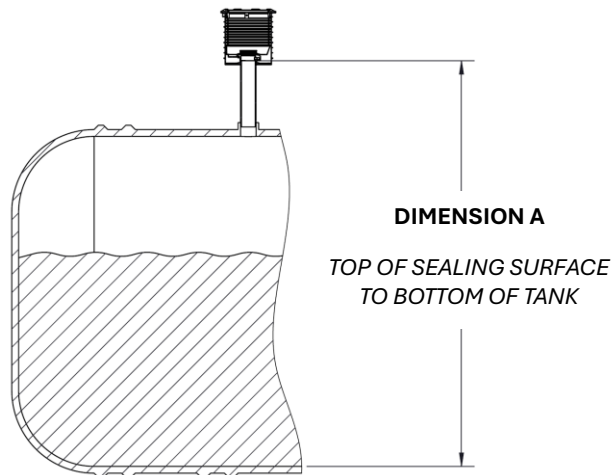

Figure 1 – Dimension A measurement
1. Determine Dimension A from top of sealing surface to bottom of tank (Dimension A – Figure 1).